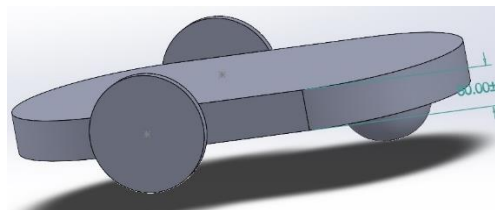

Figure 1: Simple Car (initial CAD)
1. In the beginning to simplify the learning process of CAD design + integration with ROS, we first modelled a simple differential drive car (Fig 1.) based on this online tutorial having only one joint in the rear wheels and a dummy fixed front caster wheel.